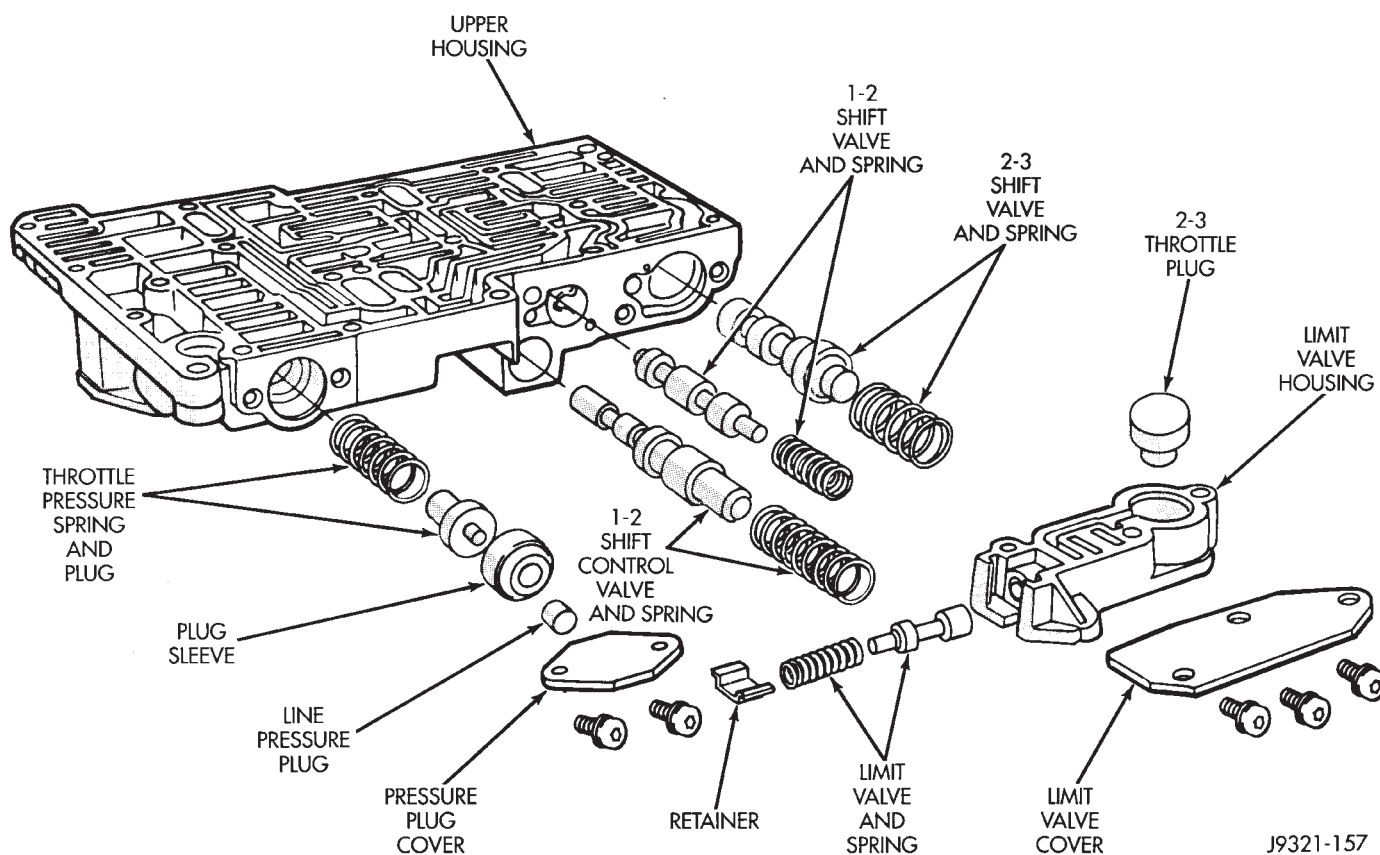

Fig. 115 Shift Valves And Pressure Plugs—46RH Upper Housing
(9) Turn upper housing around and remove limit valve and shift valve covers (Fig. 115).
(10) Remove limit valve housing. Then remove retainer, spring, limit valve, and 2-3 throttle plug from limit valve housing (Fig. 115).
(11) Remove 1-2 shift control valve and spring (Fig. 115).
(12) Remove 1-2 shift valve and spring (Fig. 115).
(13) Remove 2-3 shift valve and spring from valve body (Fig. 115).
(14) Remove pressure plug cover (Fig. 115).
(15) Remove line pressure plug, sleeve, throttle pressure plug and spring (Fig. 115).